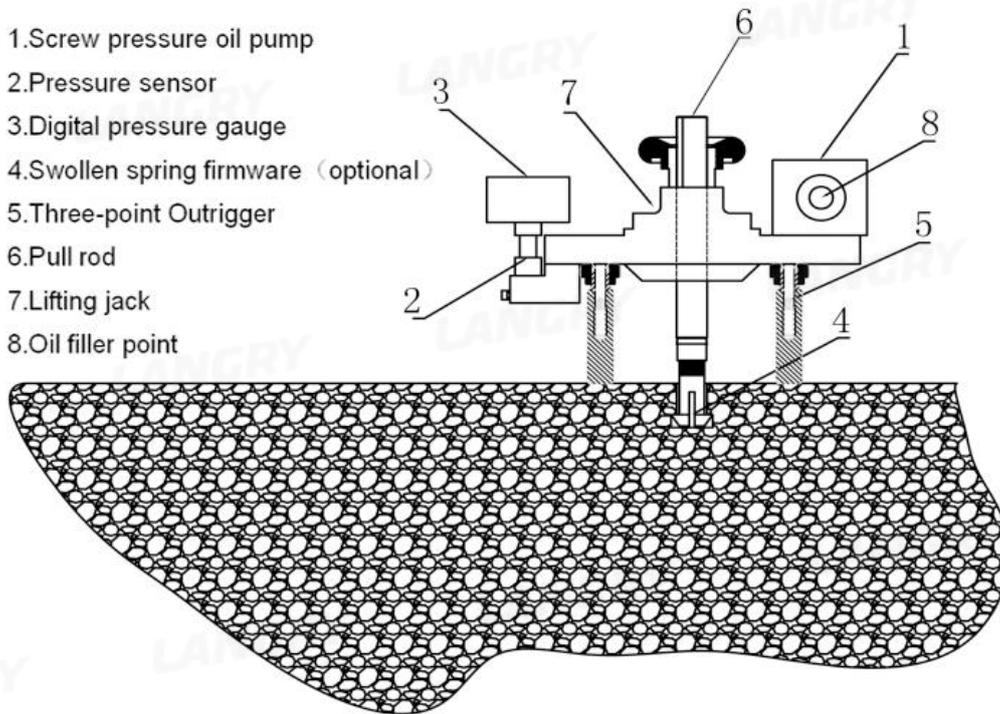
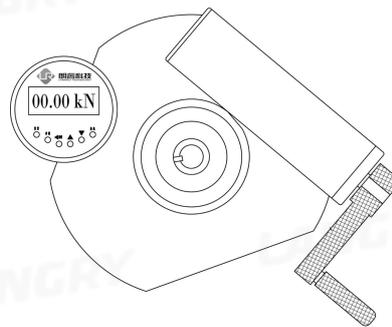

Figure 1 Tester working state diagram
Fig. 2 Top view of host
3.1 The components of the tester are shown in Figure 1 and Figure 2
As shown in Figure 1, Turn the handle to push the piston in the pump body to move, and the hydraulic oil will be pressed into the internal cylinder. Press in the connected pressure sensor and lifting Jack respectively, Thus pushing the piston up, driving the hand wheel and pull rod to apply tension to the standard test block. As the handle turns, the tension on the standard block increases gradually, and the oil pressure drops back to zero rapidly when the face brick is stripped. Because the pressure of the sensor is equal to the pressure in the jack, so, a force measuring device composed of sensor and digital display circuit can display the corresponding pressure value. At the moment of face brick stripping, the circuit will record the maximum oil pressure.